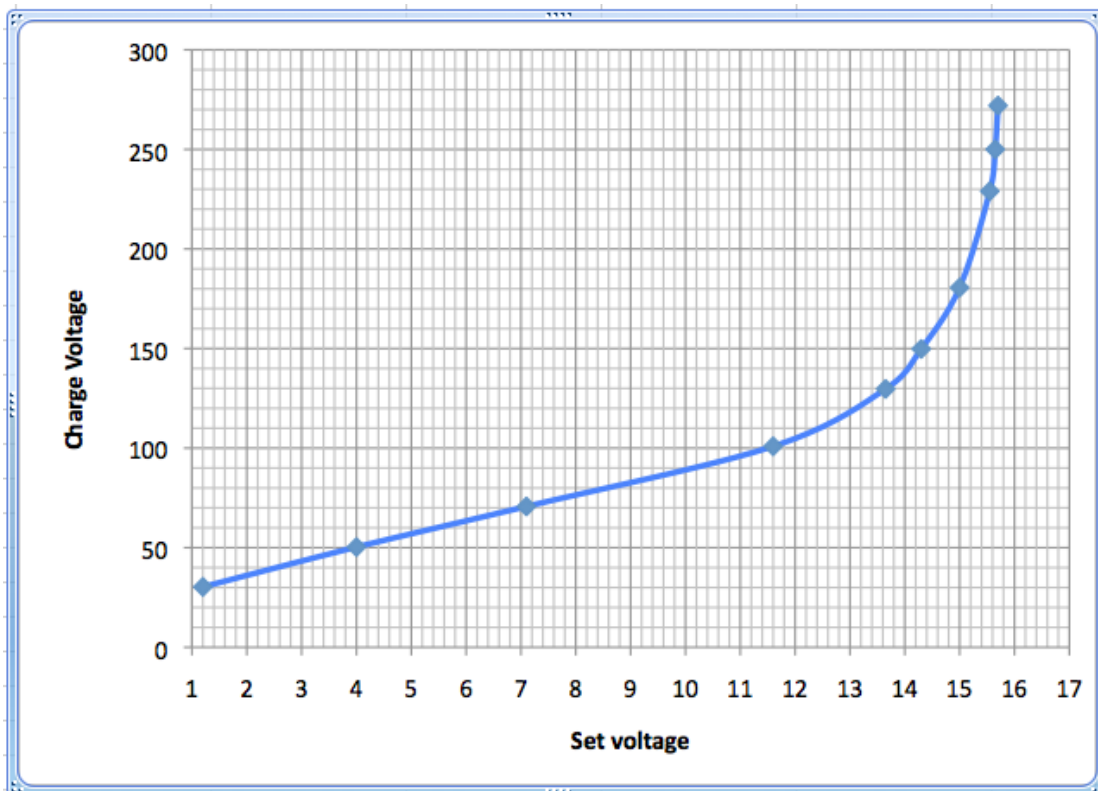

Figure 2: Stop-charge voltage vs. set voltage indicated on front panel DVM
The analog ammeter shows charge current going to the battery. The small DVM (digital voltmeter) below the analog voltmeter shows a number corresponding to the ultimate voltage you set with the V_{set} knob. It is just a marker, not a multiple of the absolute set voltage. Fig. 2 shows the measured relationship. You need to use this graph to set the charger properly.
5) Turn the “Set Chg” potentiometer knob counterclockwise until the digital voltmeter (DVM) below the main voltmeter shows the desired set voltage (using Figure 2). What you set must be larger than the indicated voltage on the analog panel meter. This is quite sensitive near the level at which charging stops. However, with the 10-turn potentiometer, precision is about 10V. You may lock the potentiometer in position using the small brake lever.